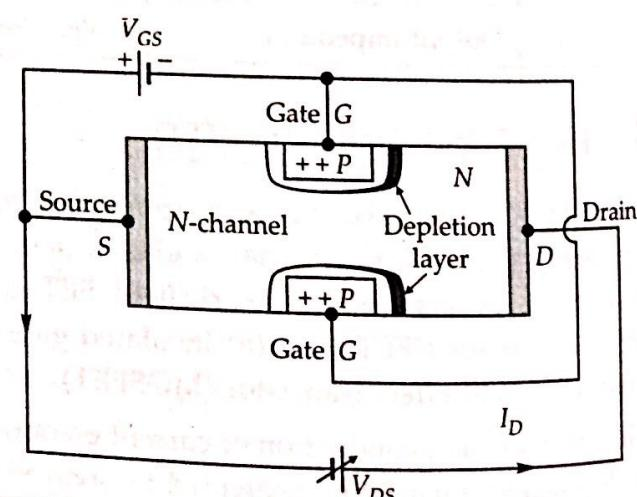

Figure 5.58 The structure of N-channel JFET.
Here current flows from drain (D) to source (S) and majority carrier electrons will flow from S to D. Therefore, the terminal through which majority carriers (electrons in this case) enter the channel is called *source*, termed as S and terminal through which majority carrier leaves the channel is called *drain*, termed as D. If external voltage  $V_{DS}$  is increased, drain current,  $I_D$  will increase proportionally. To control this current  $I_D$  heavily doped P-type semiconductors are formed on both sides of N-type material. These impure regions are called *gates* G, usually connected together by the same potential. The gate is given a negative potential with respect to the source so that PN-junctions are reverse biased. The word *gate* is used because the voltage applied between gate and source,  $V_{GS}$  controls the channel width and hence the drain current  $I_D$ . The N-channel JFET structure is shown in Fig. 5.58.